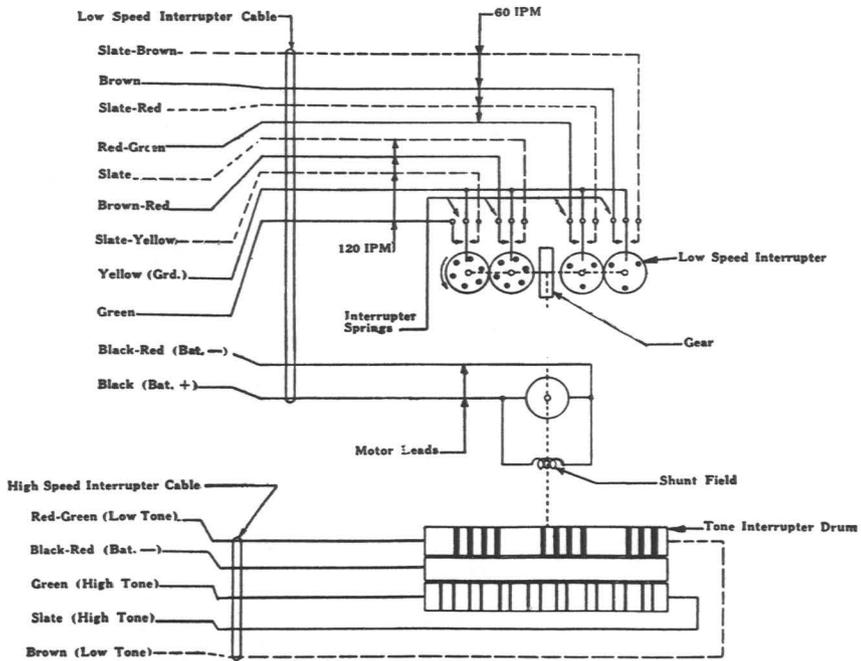
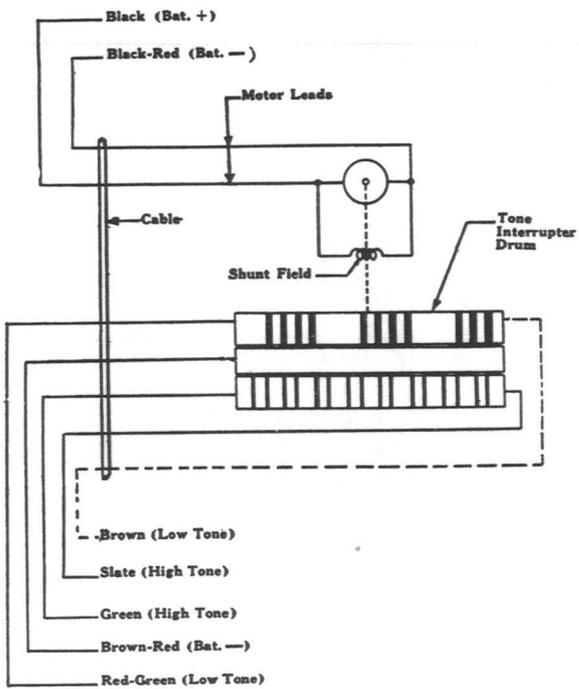
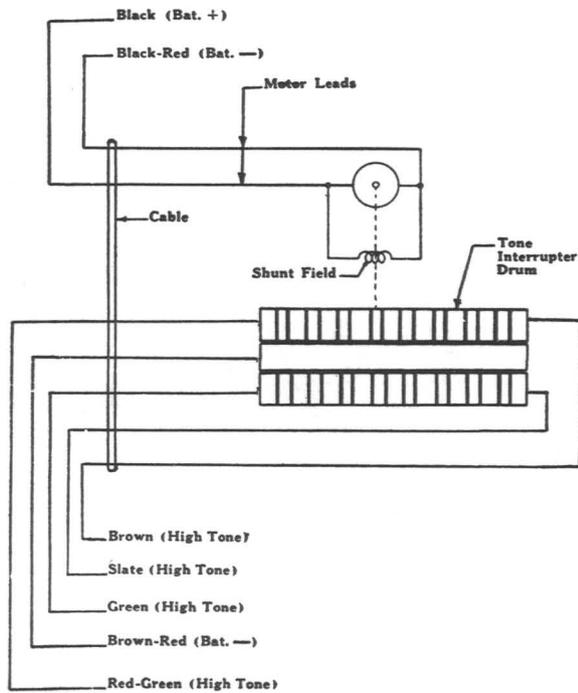

Fig. 2—Schematic Wiring Diagram—Interrupter and Tone Machines—KS-5131 and KS-5187
Fig. 3—Schematic Wiring Diagram—Tone Machines—KS-5132 and KS-5188
Fig. 4—Schematic Wiring Diagram—Howler—KS-5313
2.01 Leads from the machine are brought out in a single cable with the exception of the KS-5187 machine which has two cables. Each lead has a separate color combination as shown in Figures 2, 3 and 4. Figure 2 is the schematic wiring diagram of connections for KS-5131 and KS-5187 machines. Figure 3 is the schematic wiring diagram of connections for KS-5132 and KS-5188 machines. Figure 4 is the schematic wiring